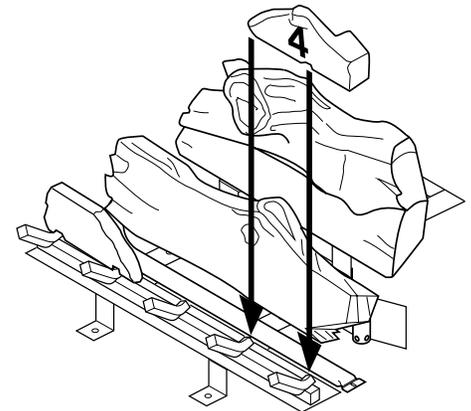

Figure 54 - Installing Log No. 4
4. Place log #4 (right log) onto the front left part of the grate making sure the notches fits over the prong of the grate (see Figure 54).